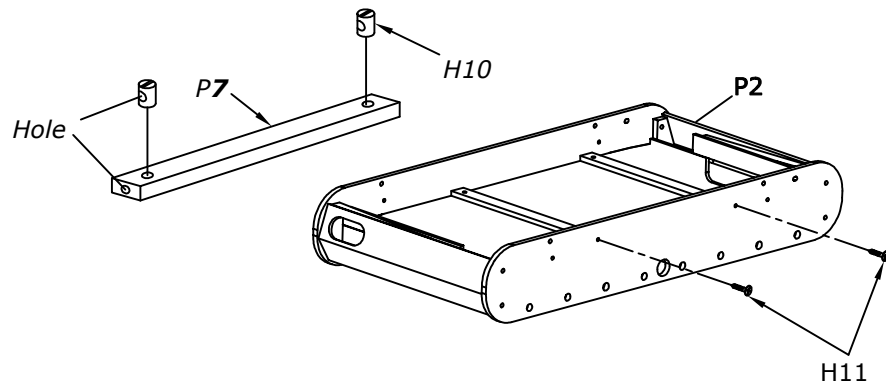

FIGURE 3
3. Insert the nut **H10** into the hole of the support braces **P7** as shown in **figure 3**. The hole of the nut align the hole of the braces.
Place the playfield supports **P7** on the bottom of the playfield and attach it with screws **H11** as shown in **figure 3**.